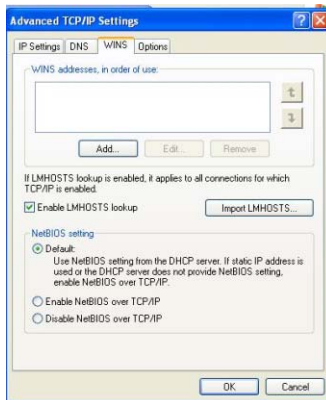

Figure 10 WINS settings
- c Click the **WINS** tab, then check that the settings match those in Figure 10.